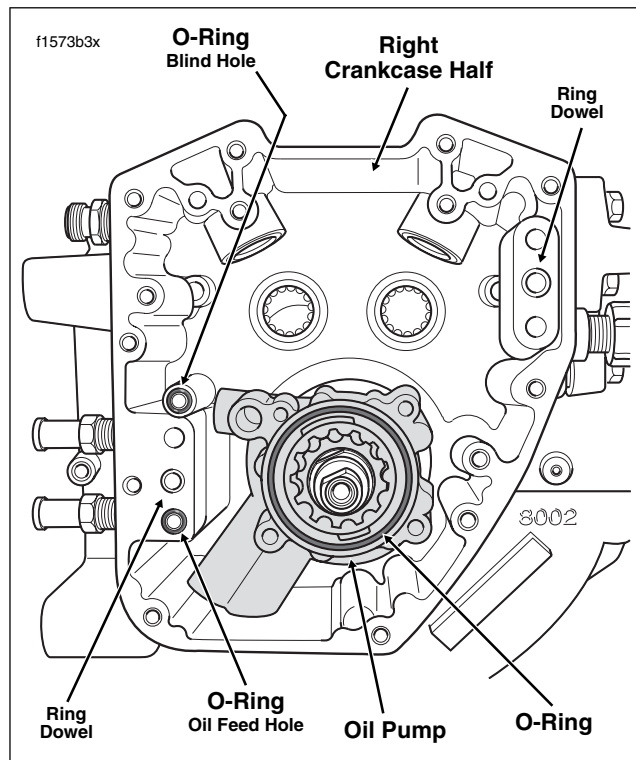

Figure 3-43. Oil Pump Assembly
13. Two ring dowels in crankcase flange locate cam support plate (lower rear, upper front). See Figure 3-43. Insert small pry bar (seal remover) between inboard side of cam support plate and crankcase flange in area adjacent to ring dowels. Alternately work each side free and then carefully ease cam support plate from end of crankshaft. See Section 3.11 SUBASSEMBLY SERVICE AND REPAIR, CAM SUPPORT PLATE.
14. Remove O-ring from groove around oil feed hole in crankcase flange (directly below rear ring dowel). Remove O-ring from groove around blind hole in boss (directly above oil return hole in crankcase flange). Discard O-rings. See Figure 3-43.
- g. Install **new** O-ring in groove on outboard side of oil pump housing. See Figure 3-43. Apply a very thin film of clean H-D 20W50 engine oil to O-ring before installation.